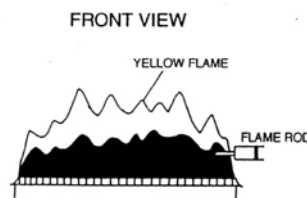

Figure 51
2. Visually inspect the burner flames. The flame must burn with a clear blue, stable flame. Refer to figure 51, "Burner Flame Appearance" for satisfactory flame appearance. If the burner flame appearance is not satisfactory or debris is visible on the burners, remove and clean with a vacuum cleaner.